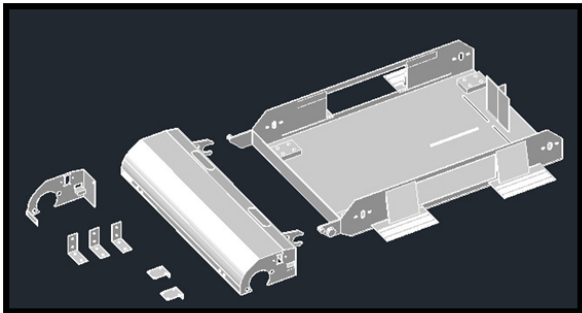

Figure 31 – 3D Design of the frame
- For the machine elements (Figure 31), we order in the workshops and mechanical shops⁴. There are total 17 technical drawings for the frame.